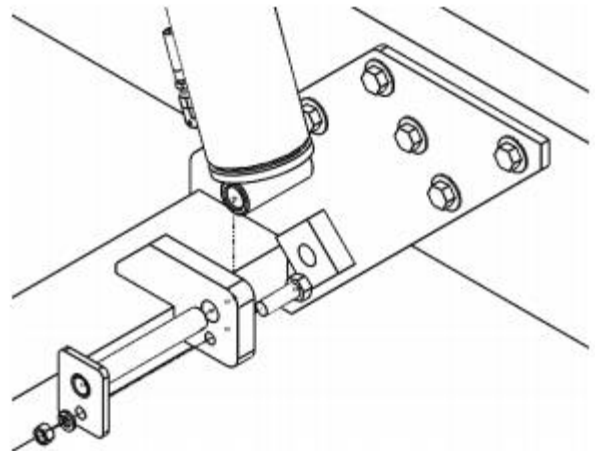

Figure 11
1. Align the lower Hydraulic Cylinder mounting hole with the corresponding holes on the Lower Cylinder Mount as shown in Figure 11.
2. Insert one (1) 3/4" Cylinder Pin into the cylinder hinge plate through the Hydraulic Cylinder lower mounting hole as shown in Figure 11.
3. From the inside of the hinge plate, insert one (1) 3/8" Hex Bolt through the hinge plate and the lower hole on the Cylinder Pin.
4. Attach one (1) 3/8" Lock Washer and one (1) 3/8" Hex Nut to the protruding end of the Hex Bolt and fasten with appropriate wrench until secure as shown in Figure 11.